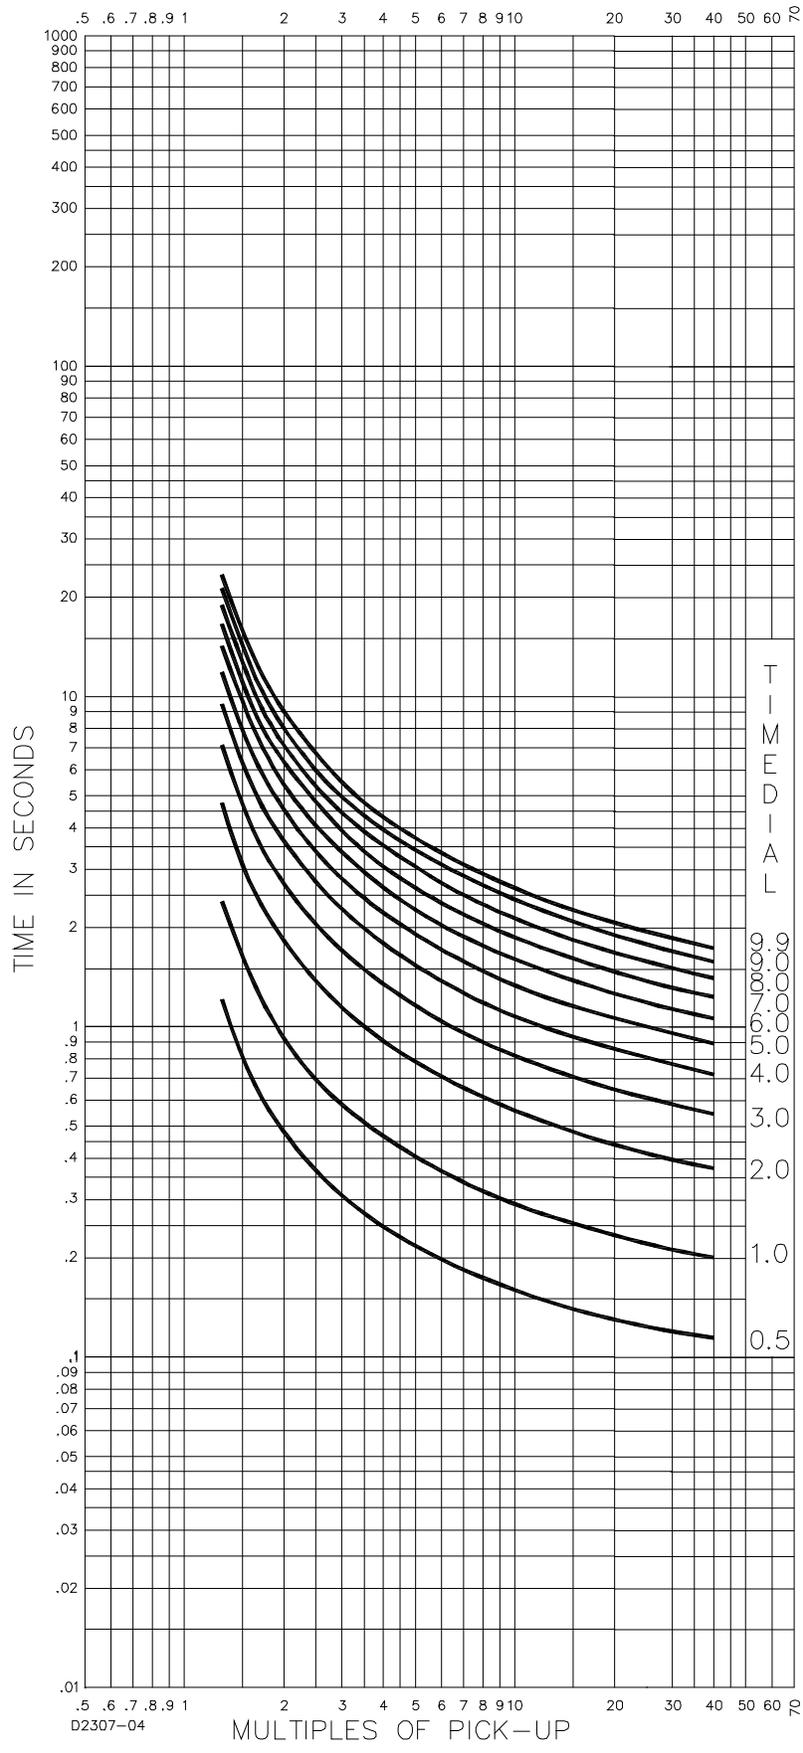

Figure 7-12. I2 Inverse Curve (SW3-3 On, Similar to GE IAC 51)
- I2-Inverse (SW3-3 ON, Similar to GE IAC 51): Figure 7-12